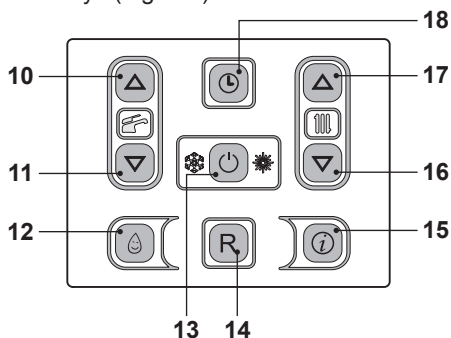

Fig. 3.1
If a radiator (or a convector) does not heat up, check that no air is present in it and that its valve is open. If the ambient temperature is too high, do not alter the radiator valves. Reduce the central heating temperature instead by means of the room thermostat or by pressing the 16 and 17 heating adjustment keys (Fig. 3.1).
Press the reset key 14 on the boiler control panel (Fig. 3.1) to reset its functioning.